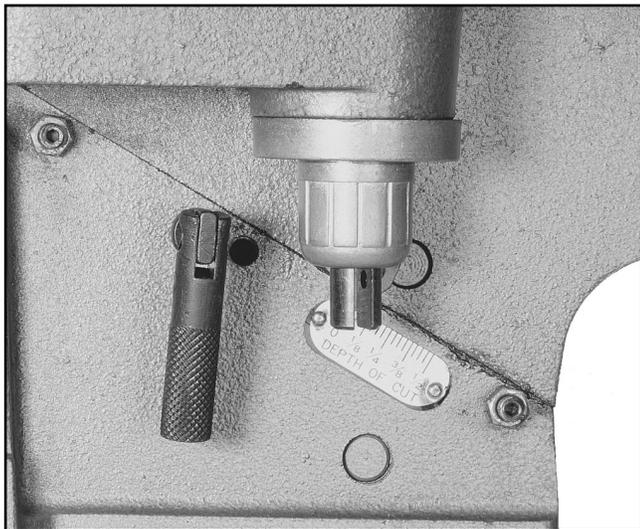

Figure 10. Spring housing.
1. The cutterhead guard pivot shaft is slotted on the end. This slot fits over the tang at the end of a spring located in the spring housing. See **Figure 10**. Look down the pivot hole to get an idea where this tang is located.